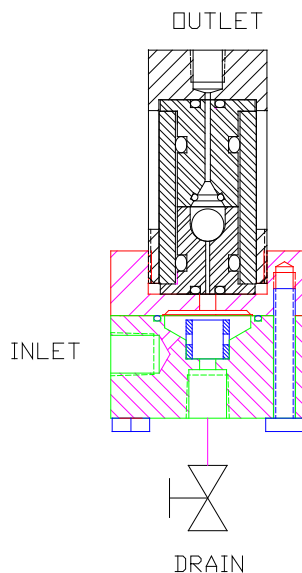

FIGURE 1
2.2 The Guardian must be mounted vertically with the product outlet facing up (see Figure 1). **This is very important as the unit will not work properly in any other position.**